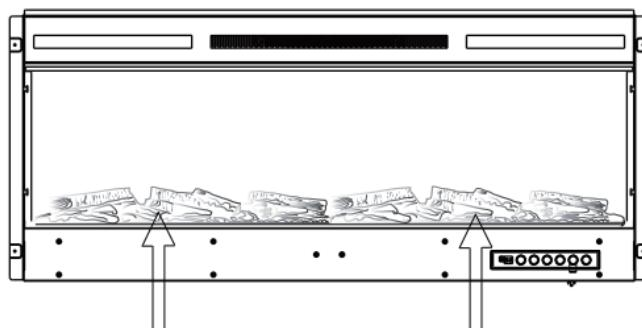

Figure 1
- 2** If your fireplace come with lotset, remove the logset from the package, put it to the fireplace designed place.Figure 1.